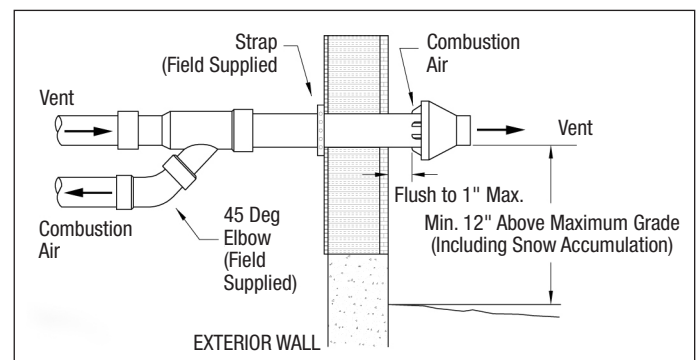

Figure 1.
- Determine the best location for the termination – see Figures 1 and 2 for horizontal and vertical vent termination installations. For side (horizontal) termination, the following should be considered:
- Secure the assembly to the structure as shown in Figure 1 or Figure 2, using field supplied support/weatherproofing products.
- Ensure the termination location clearance dimensions are as shown in Figure 1 for horizontal termination.
- Cement the furnace combustion air and vent pipes to the concentric vent termination assembly. See Figure 1 or Figure 2.